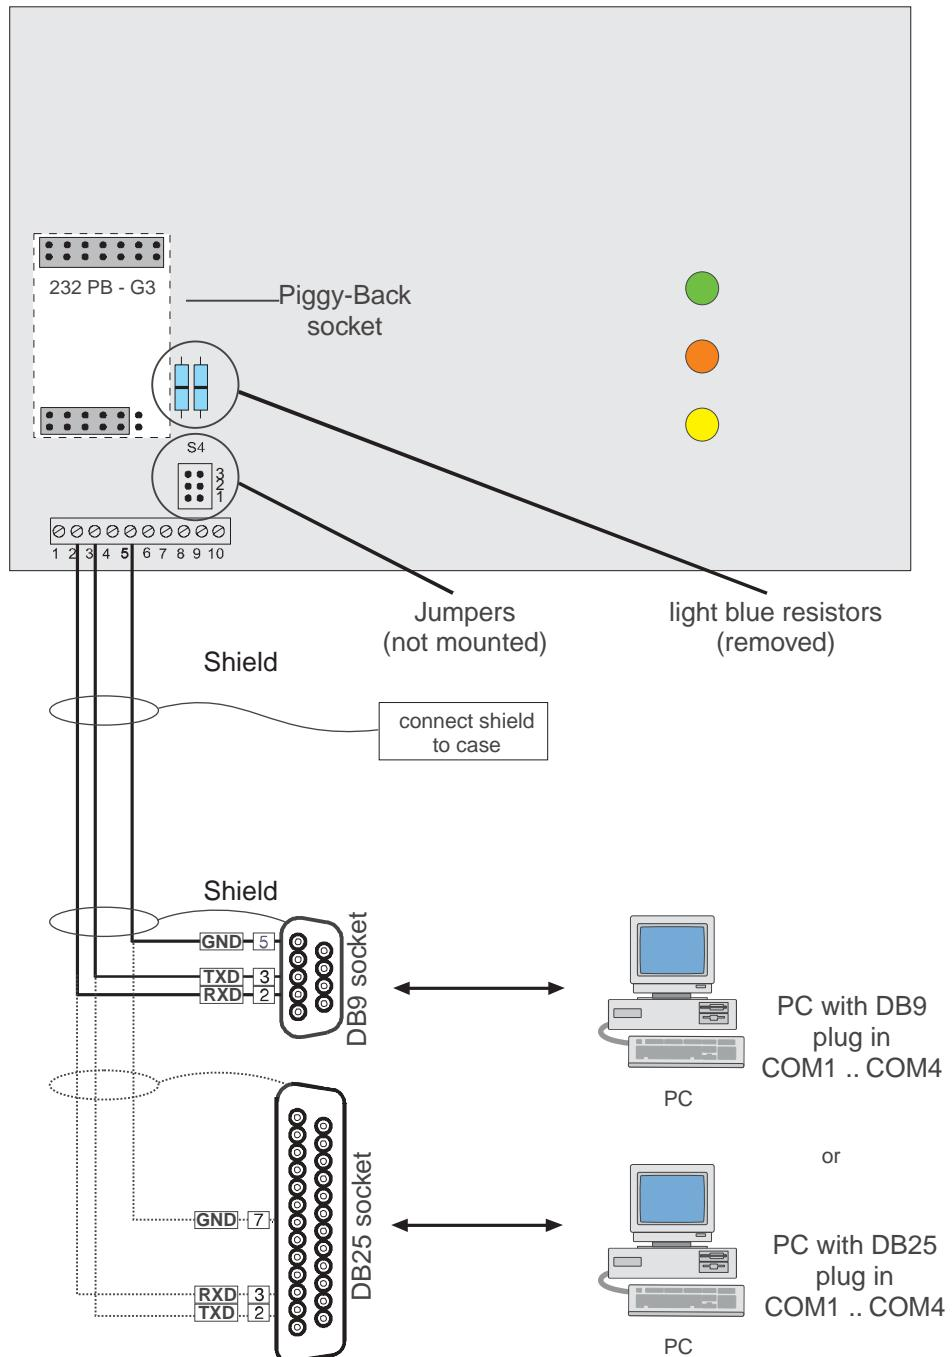
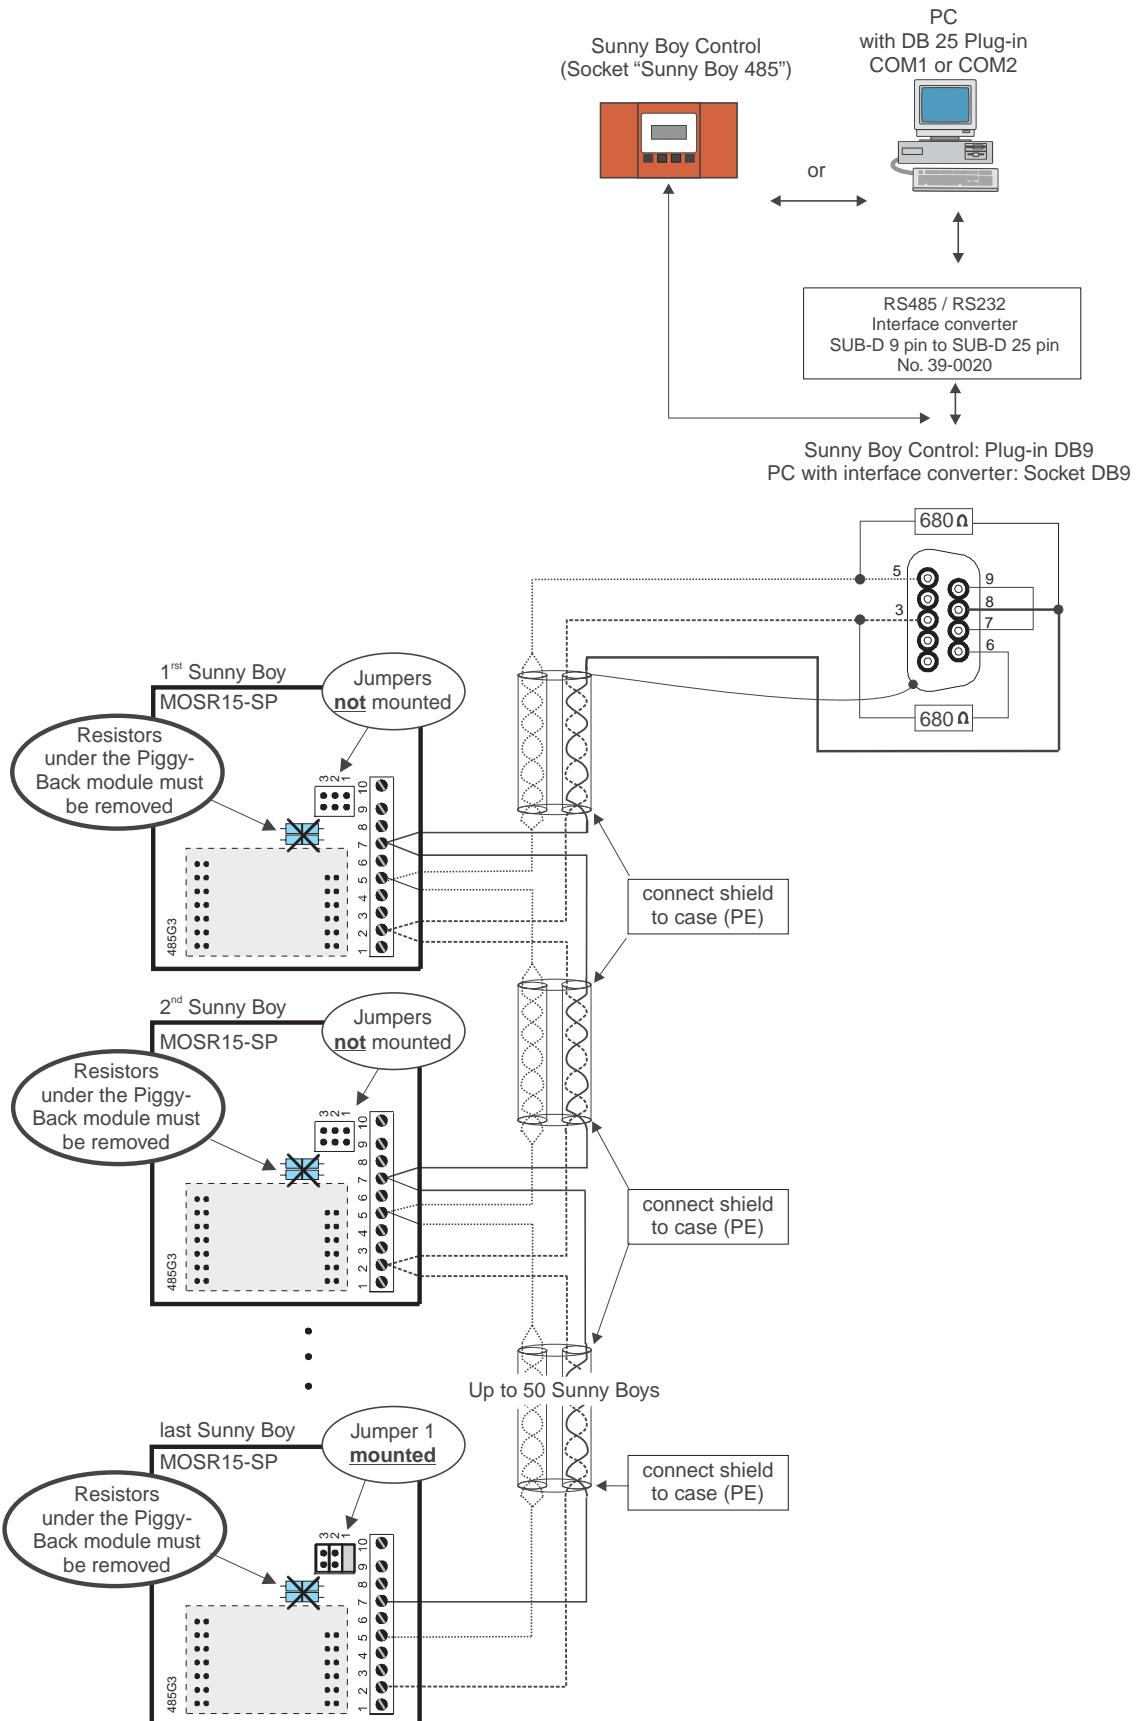

Fig. 6.3: System control board Sunny Boy with RS232 cabling
Fig. 6.6: System control board Sunny Boy with RS485 cabling
- The Powerline piggy back modem is installed (see Fig. 6.3: System control board Sunny Boy with RS232 cabling).
- The blue resistors under the piggy back have to be installed for Powerline communication (see Fig. 6.3).
- The light blue resistors (Fig. 6.3) on the system control board are removed.
- Connect RS232 connection cable LIYCY; 0.25 mm², minimum three-cable with common shield and a maximum length of 15 m. You can see the connector layout in Fig. 6.3. The shielding should be connected to protective earth (PE) on both ends at the Sunny Boy and the PC case.
- The light blue resistors (**Fig. 6.6**) on the system control board are removed.
- Two resistors of 680 Ohm each must be integrated into the DB9 connection at the beginning of the cable that is connected to the Sunny Boy Control or the PC. One is soldered from pin 3 to pin 6, the other is soldered from pin 5 to pin 8 (see Fig. 6.6). These resistors are not required for communication with the *Sunny Boy Control* if the corresponding jumpers were plugged on.
- The recommended cable for the RS485 connection is a LIYCY 2 x 0.25 mm twisted pair cable. It consists of four data lines of which two are each combined to altogether two twisted pairs. Both pairs are surrounded by a single common shield. Maximum length of the entire RS485 connection is 1200 m (4000 ft.). It is essential to connect the outer shielding to protective earth (PE) on both ends.
- Remove the resistors (Fig. 6.6) on the system control board by cutting them out with a wire cutter.
- Please make sure that the resistors (Fig. 6.6) are plugged onto the system control board. If not, resistors (corresponding to 0 Ohm resistors) have to be installed in there.
Connect the cables for RS232 (see Fig. 6.3) or RS485 (see Fig. 6.6). No cabling is necessary for Powerline communication. Data cables are lead outside through the free opening at the bottom of the Sunny Boy. Please insert the PG16 screws into this opening and fasten them.